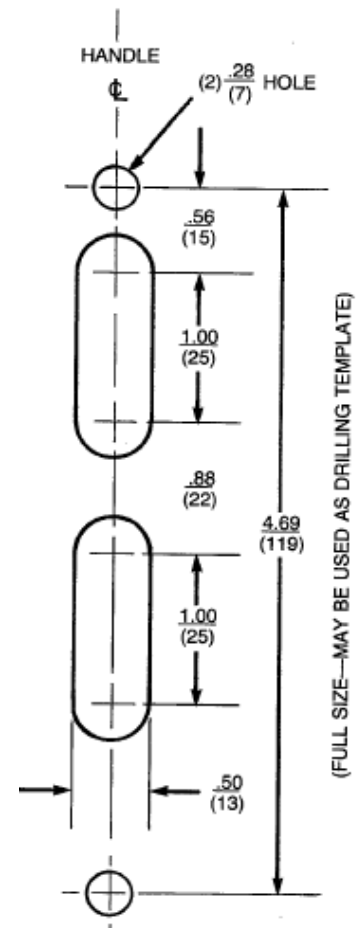

Figure 1A. Right hand flange details (Full size template).
- If flange is not provided with handle holes and slots, drill per Figures 1A and 1B. Template, Figure 1A may be used.
- Position gasket item 4, in groove in handle and assemble handle, item 1, and flange stiffening bracket, item 2, to flange of enclosure using two $\frac{1}{4}$ "- 20 x $\frac{5}{8}$ inch hex. head screws and lockwashers, item 3. Torque screws to 35-45 in. lb.
- Assemble interlock blade, item 5, to handle using (2) 8-32 screws, item 6.
- Assemble handle return spring, item 9, to lower end of stiffening bracket, item 2, and then to hole in drive link, item 10.